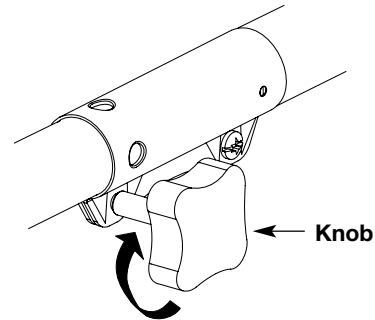

Fig. 3
4. Turn the knob clockwise to tighten (Fig. 3).